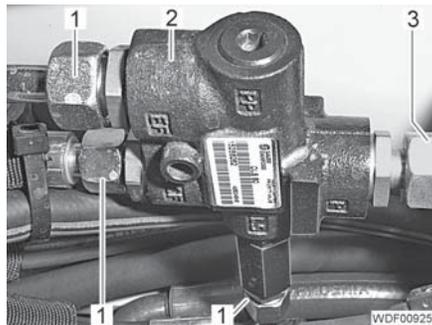

Fig. 125 Priority valve
- Unscrew and close off the hydraulic lines (Fig. 125,1).
- Unscrew the union nut (Fig. 125,3) and remove the priority valve (Fig. 125,2).
- Position new priority valve, screw the union nut (Fig. 125,3) onto the connection on the pressure filter and tighten.
- Screw the hydraulic lines (Fig. 125,1) onto the connection on the priority valve and tighten.